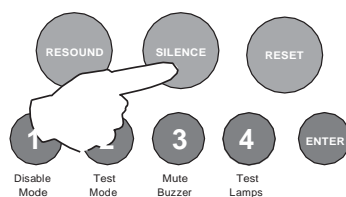
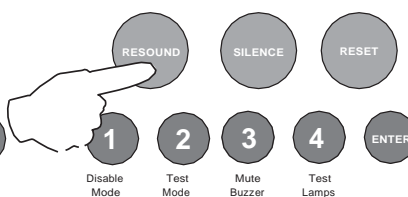

fig 1
fig 2
3. Only when it is safe to do so should the alarms be silenced. Activate the controls by turning the key switch or by entering the four digit code (see Activate Controls in the OPERATING section) and press the (blue) SILENCE ALARMS button (fig 1). To sound the alarms again press the (red) RESOUND button (fig 2).